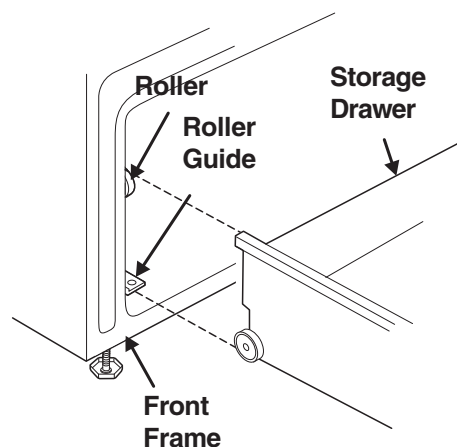

Figure 2
3. Grab the door by the sides and pull the bottom of the door up and toward you to disengage the hinge supports. Keep pulling the bottom of the door toward you while rotating the top of the door toward the range to completely disengage the hinge support (Figure 2).